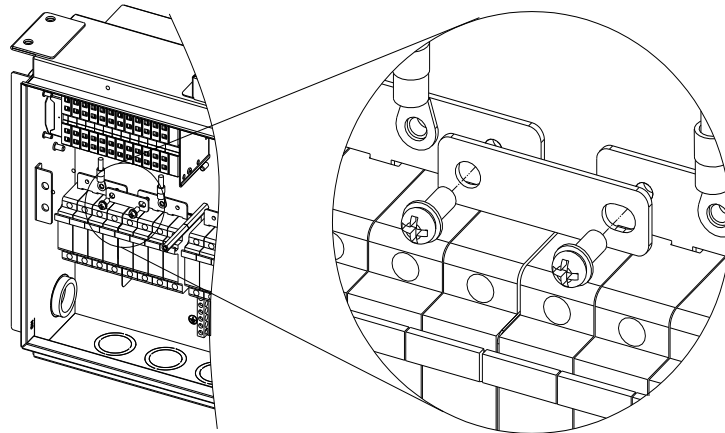

Figure 5.4 – Busbar Connection Used for Single (Combined) MPPT Option Removed
3. Use a #2 Philips head screwdriver to remove the busbar that connects INV 1 + & INV 2+ at the top (see Figure 5.4 next page).